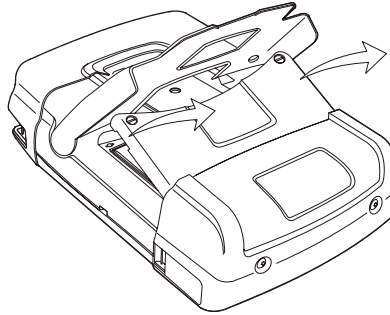

Figure 4-4. Removing the Battery Cover
- Lift the standup and battery cover and remove it (Figure 4-4).